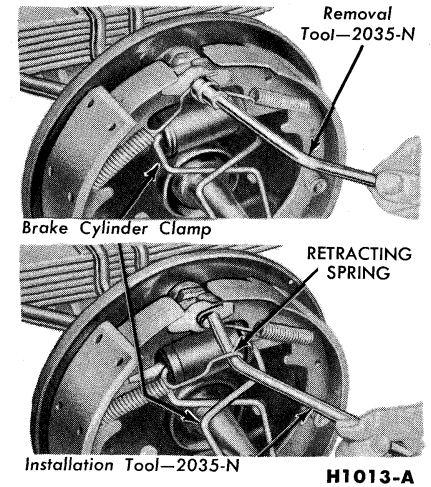

FIG. 11—Spring Replacement
1. With the wheel and drum removed, install a clamp over the ends of the brake cylinder as shown in Fig. 11.
5. Remove the secondary shoe to anchor spring with the tool shown in Fig. 11. With the same tool, remove the primary shoe to anchor spring and unhook the cable anchor.
5. Install the primary shoe to anchor spring with the tool shown in Fig. 11.
7. Install the secondary shoe to anchor (long) spring (Fig. 11).
2. Clamp the brake cylinder boots against the ends of the cylinder, and remove the brake shoe retracting springs from both shoes (Fig. 11).
5. Install the brake shoe retracting springs on both shoes (Fig. 11), being careful not to bend the hooks or to stretch the springs beyond the attaching points. **The primary shoe spring must be installed first.**
a. Clamp the brake cylinder boots against the ends of the cylinder, note the location of each brake shoe retracting spring, and remove the four brake shoe retracting springs with the tool shown in Fig. 11.
a. Clamp the brake cylinder boots against the ends of the cylinder and remove the four brake shoe retracting springs with the tool shown in Fig. 11.
c. Install the four retracting springs with the tool shown in Fig. 11.